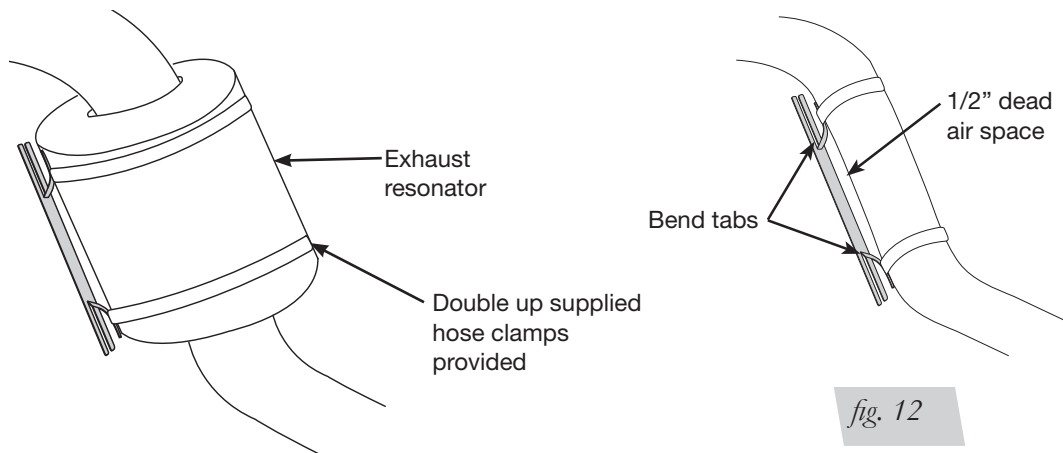

fig. 12
1. Bend tabs to provide a dead air space between exhaust pipe and heat shield. (Fig. 12) Attach the heat shield to the exhaust pipe using the clamps. Bend the heat shield for maximum clearance to the air spring.
Some vehicles have large resonators in this area; it will be necessary to double up on the clamps to fit these models (Fig. 12).